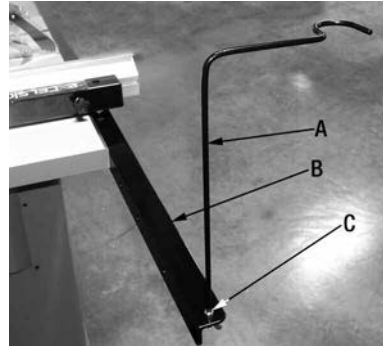

FIGURE 1
This kit comes with a hose hanger (A) Fig.1 which gets installed in the small hole at the end of the rear rail (B) of the rip fence system.
Remove butterfly nut and washer from the hose hanger, insert hose hanger into hole in rear rail and position it as shown in Fig.1. Secure the hose hanger using the washer and butterfly screw. Once tight, tighten the top hex. nut (C) with an open end wrench.